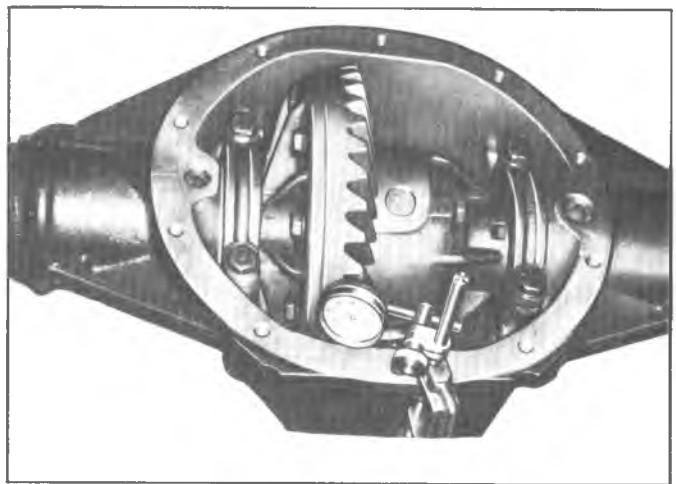

Fig. 10B—Checking Ring Gear Backlash
13. Mount a dial indicator on the carrier and check the backlash between the ring gear and pinion, as shown in Figure 10B. The backlash should be within the range of 0.005"-0.008". Check gear lash